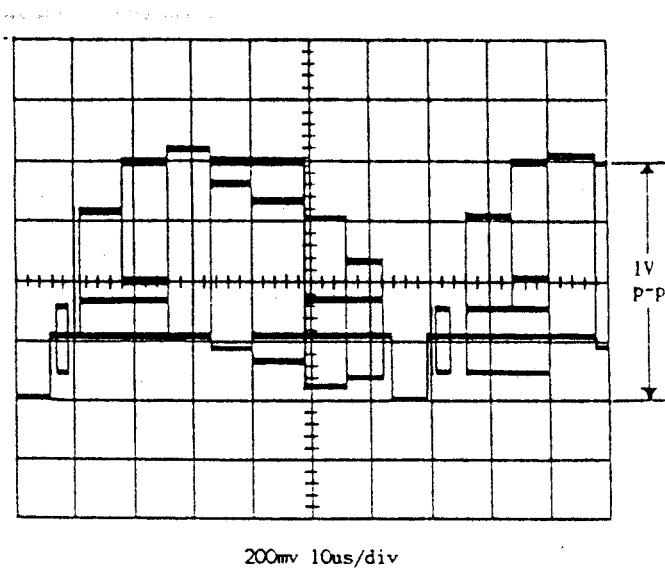

Fig. 12
- (1) Connect the oscilloscope to TP4201.
- (2) Adjust VR4001 so that waveform may become $1.0 \pm 0.05\text{Vp-p}$ as shown in Fig. 12.